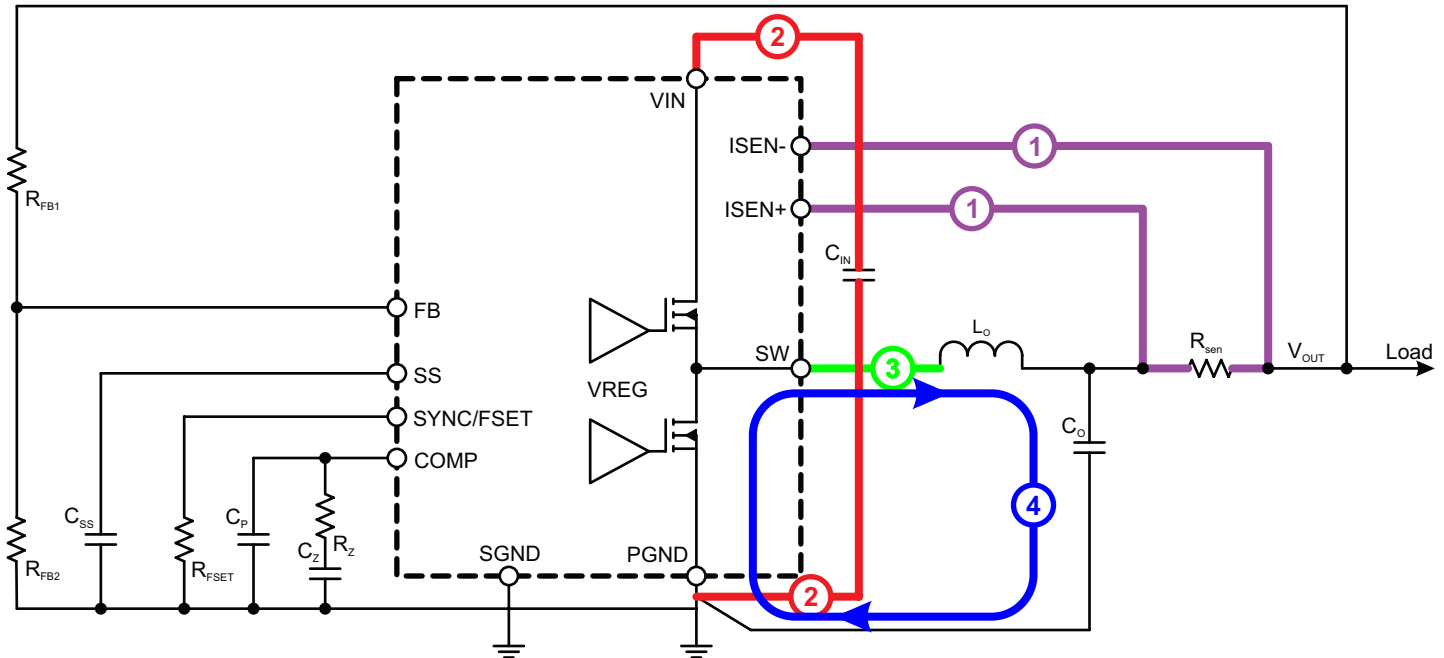

Figure 17: Typical Synchronous Buck Regulator with Current Sensing Resistor for Remote Load Regulation
A good PCB layout is critical for the A8652/53 to provide clean, stable output voltages. Follow these guidelines to ensure a good PCB layout. Figure 17 shows a typical buck converter schematic with the critical power paths/loops. Figure 18 shows an example PCB component placement and routing with the same critical power paths/loops from the schematic.
1. The current sensing traces from ISEN+ and ISEN– are most sensitive to noise. A Kelvin connection is strongly recommended for the low ohmic current sensing resistor. The loop formed by ISEN+ and ISEN– traces should be minimal. The loop should be away from the noisy switching areas and can be placed on the bottom layer of PCB where it is away from the high di/dt and dv/dt areas. This critical loop is shown as trace 1 in Figure 17 and 18.
2. Place the ceramic input capacitors as close as possible to the VIN pin and GND pins to make the loop area minimal, and the traces of the input capacitors to VIN pin should be short and wide to minimize the inductance. This critical loop is shown as trace 2 in Figure 17 and 18. The larger input capacitor can be located further away from VIN pin. The input capacitors and A8652/53 IC should be on the same side of the board with traces on the same layer.
4. When the high-side MOSFET is off, free-wheeling current flows from ground, through the synchronous low-side MOSFET, into the load via the output inductor, and back to ground. This loop should be minimized and have relatively wide traces, shown as trace 4 in Figure 17 and 18.
6. Place the output inductor (L_O) as close as possible to the SW pin with short and wide traces. This critical trace is shown as trace 3 in Figure 17 and 18. The SW node voltage transitions from 0 V to V_{IN} and with a high dv/dt rate. This node is the root cause of many noise issues. It is suggested to minimize the SW copper area to minimize the coupling capacitance between SW node and other noise-sensitive nodes. However, the SW node area cannot be too small in order to conduct high current. A ground copper area can be placed beneath the SW node to provide additional shielding. Also, keep low level analog signals (like FB, COMP) away from the SW polygon.